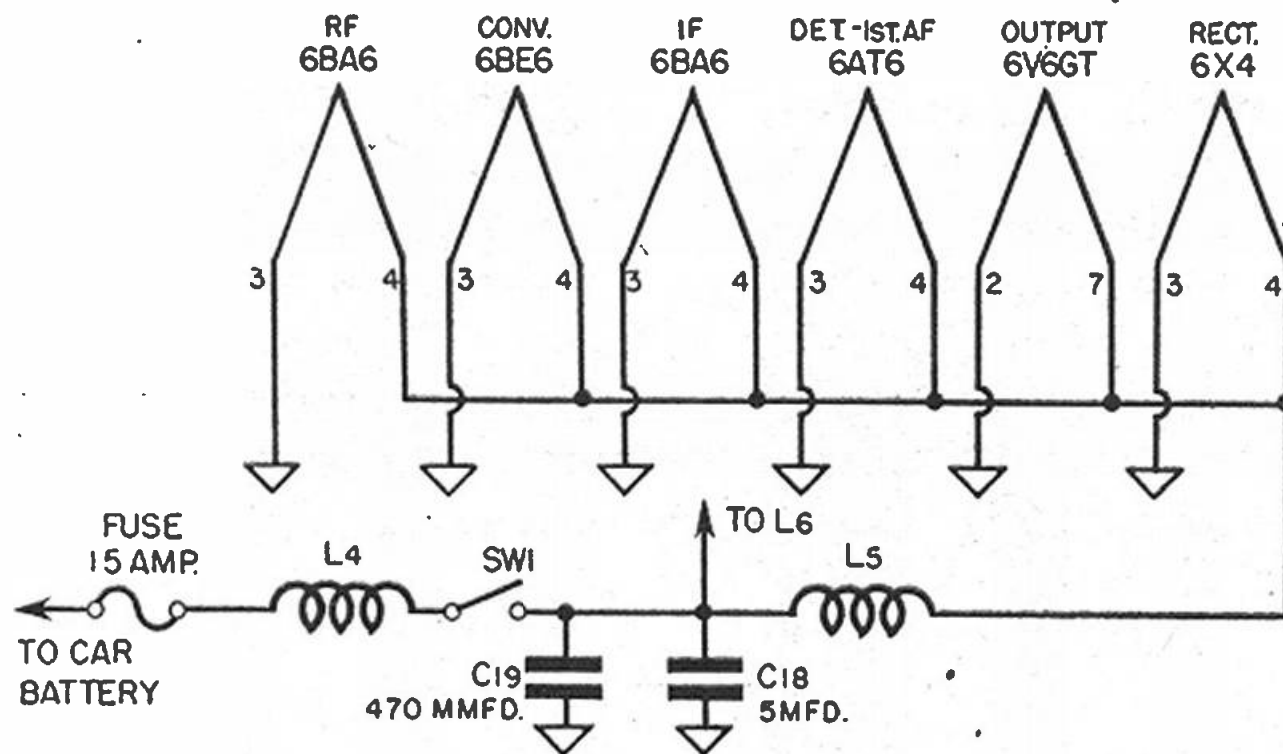

Fig. 8-24. Auto radio heater circuit.
a) *Heater Circuit.* See Figure 8-24.